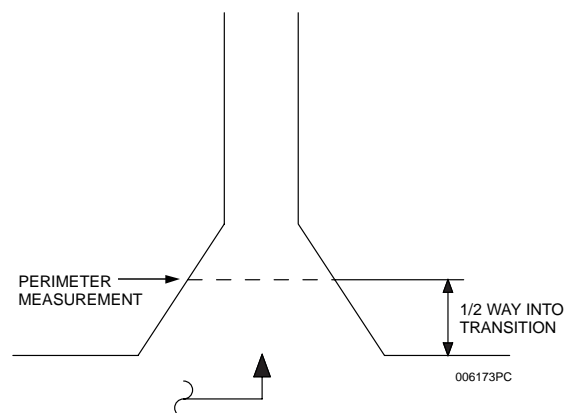

**Figure 3-1.**
- ▶ with the tip located 0 to 6 in. (15.2 cm) into the opening, and aimed directly into the duct opening. See **Figure 3-1**.